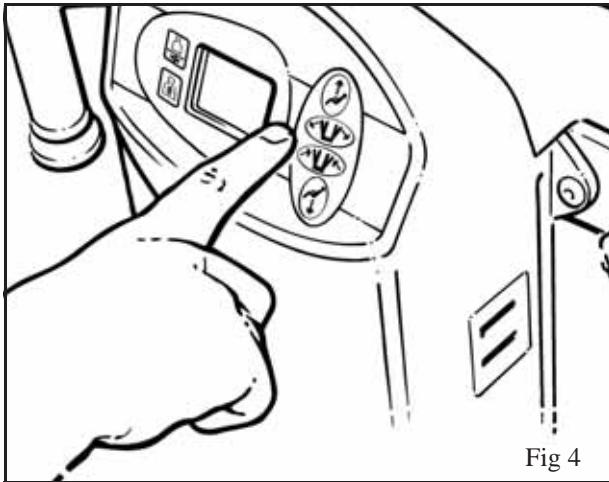

Fig 4
**Dual control panel:-** offers the same controls as the handset and is positioned on the top of the main body of the lift. (See Fig 4)